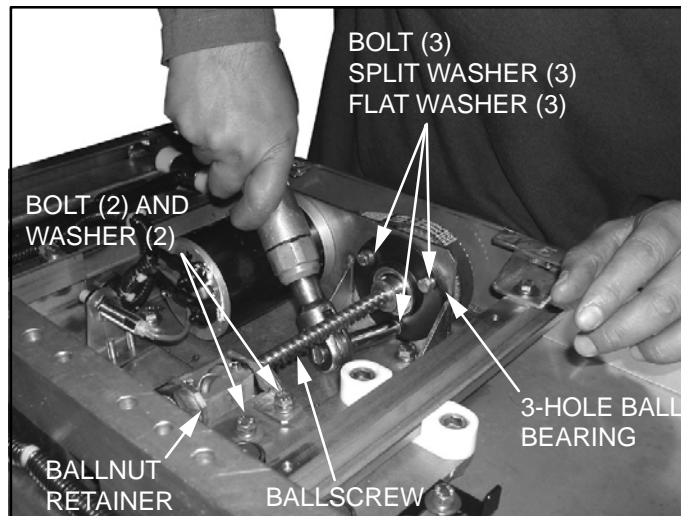

FIGURE 4-19: BALLSCREW REMOVAL
- j. Refer to **Figure 4-19**. Remove and retain three bolts, three split washers and three flat washers that attach the 3 hole ball bearing to the motor drive bracket.